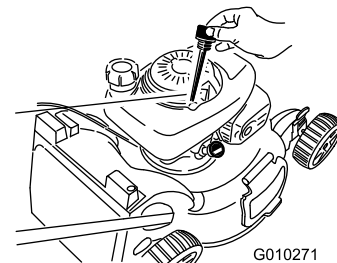

Figure 42
3. Remove the dipstick by rotating the cap counterclockwise and pulling it out (Figure 42).
4. Tip the machine onto its side (so that the air filter is up) to drain the used oil from the oil-fill tube (Figure 42).